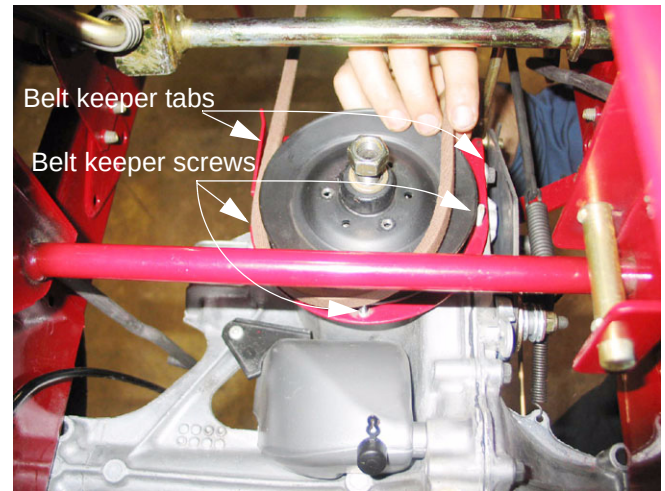

Figure 8.11
- 8.11. Loosen the pulley using a 3/4" wrench, and lift the pulley far enough to slip the belt by the belt keeper tabs and screws. See Figure 8.11.